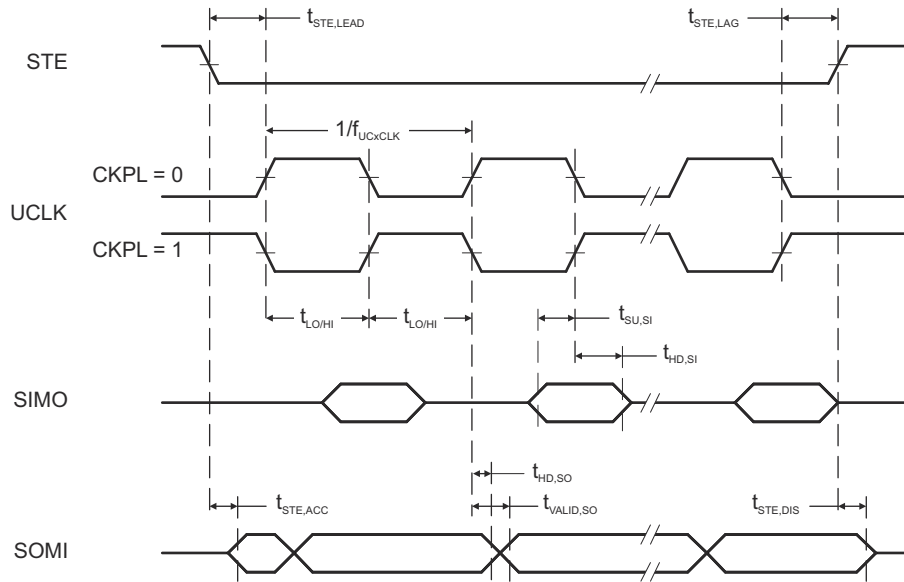

图 8-13. SPI Slave Mode, CKPH = 0
(see 图 8-13 and 图 8-14)
(2) Specifies the time to drive the next valid data to the SOMI output after the output changing UCLK clock edge. See the timing diagrams in 图 8-13 and 图 8-14.
(3) Specifies how long data on the SOMI output is valid after the output changing UCLK clock edge. See the timing diagrams in 图 8-13 and 图 8-14.